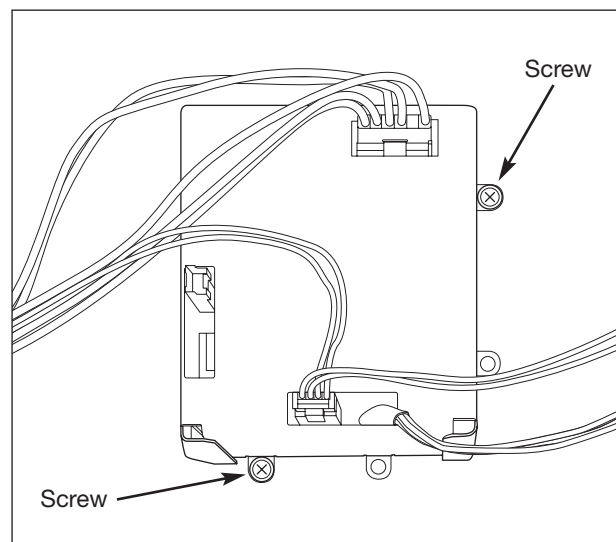

Figure 5-32. Condenser Removal
3. Disconnect all wire leads from control module assembly either at the board or at the molex connectors. (See Figure 5-32)